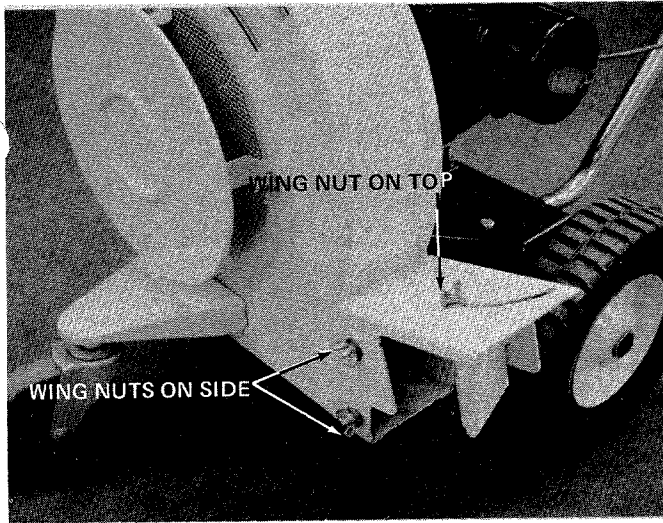

FIGURE 10
- 6 Your Leaf Blower is equipped with an adjustable chute deflector. Simply loosen two wing nuts at each side of deflector to raise or lower. You also can direct the air by loosening the wing nut on top and moving the deflector from side to side. See figure 10.